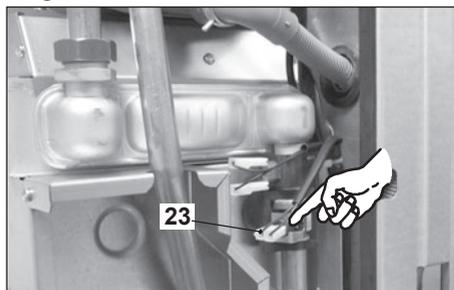

Fig. 8.3
- Disconnect the electrical connectors of the C.H. temperature probe NTC 23 in Fig. 8.3
- Connect the electrical connectors of the C.H. temperature probe NTC 23 in Fig. 8.3.